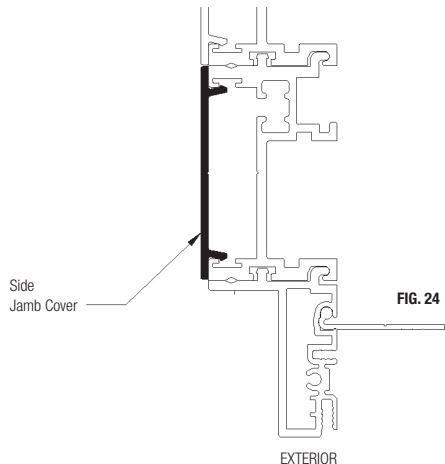

FIG. 24
- D) Make sure the side jamb track cover is tight against the side jamb and gently insert it in place. (Fig. 24)